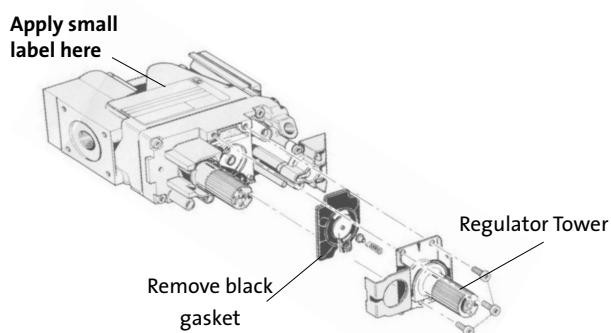

Figure 5.4. Regulator assembly.
- 12. REPLACE THE VALVE REGULATOR:** Using a Torx T-20 screwdriver, remove the screws from the front of the regulator. Remove the regulator components and replace with the one from the conversion kit. See fig. 5.4.